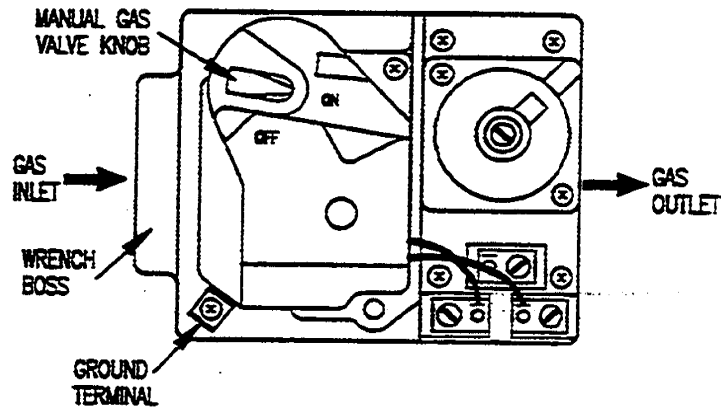

Figure 3-7. Automatic Gas Valve
4. Refer to Figure 3-7, and turn gas control knob on the automatic gas valves to the OFF position.